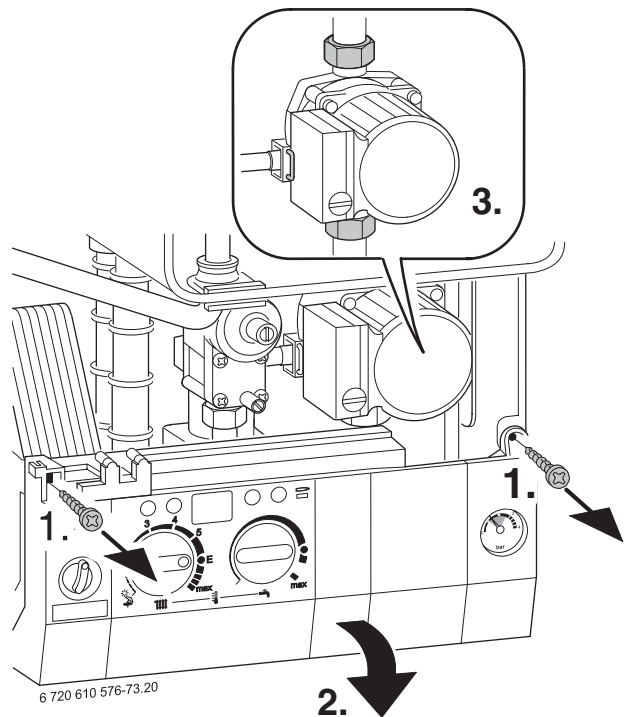

Fig. 63
- Remove two switchbox fixing screws (1.). Refer to fig. 63.
- Unscrew the pump union nuts (3.). Refer to fig. 63.
- Lower the control panel. Refer to fig. 63.
- ▶ Lower the facia. Refer to fig. 63.
- ▶ Undo the top connection of the pump. Refer to fig. 63.